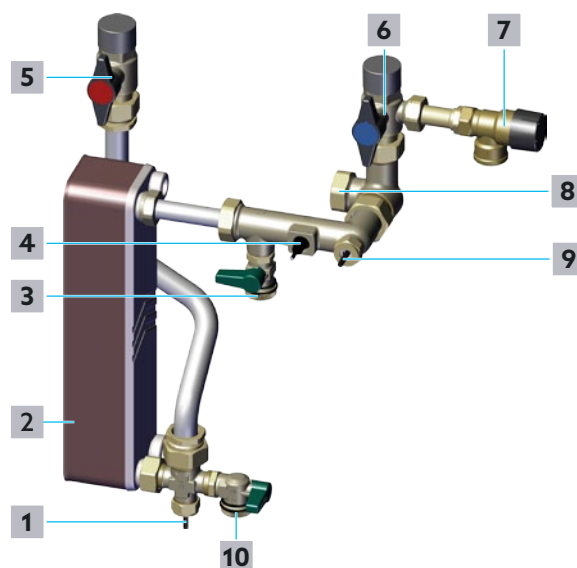

Fig. 19: Filling and venting of the potable water circuit
- 1 Slowly open the shutoff ball valve for potable water (hot) (position **5** in Fig. 19 on page 24 and position **10** in Fig. 2 on page 11).
- 2 Slowly open the shutoff ball valve for potable water (cold) (position **6** in Fig. 19 on page 24 and position **11** in Fig. 2 on page 11).
- ▶ If noises due to trapped air continue to occur in the potable water circuit, slightly open the fill and drain ball valve for potable water (hot) (position **10** in Fig. 19 on page 24 and position **16** in Fig. 2 on page 11) until only water escapes.